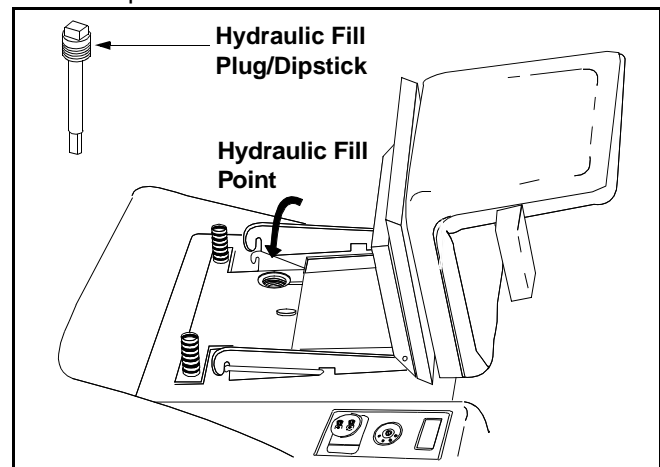

Figure 15
- Flip seat up and clean the area around the hydraulic oil dipstick to prevent debris from entering the crankcase. See Figure 15.
- Remove the hydraulic fill plug and insert a clean funnel into the hydraulic fill point. See Figure 15.